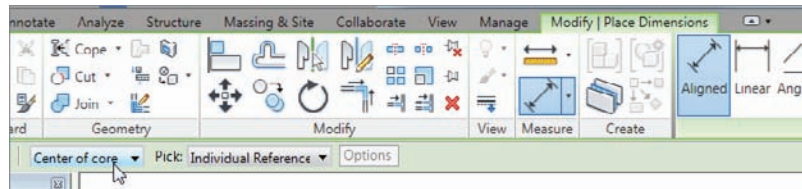

FIGURE 5.27 Changing the options for the dimension
6. Also on the Options bar, be sure the justification is set to Center Of Core (see Figure 5.27).